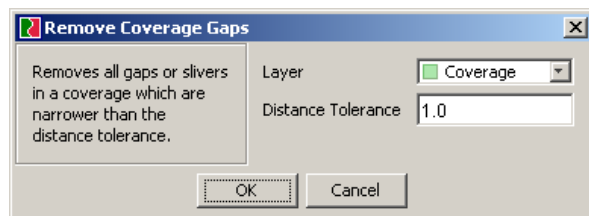

Figure 7 - Remove Coverage Gaps dialog
- Invoke the Remove Coverage Gaps function by choosing **Clean / Remove Coverage Gaps...** (see Figure 7 below).